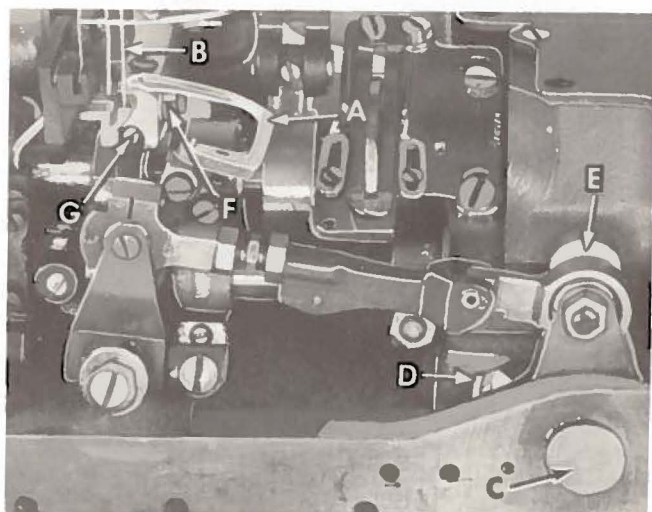
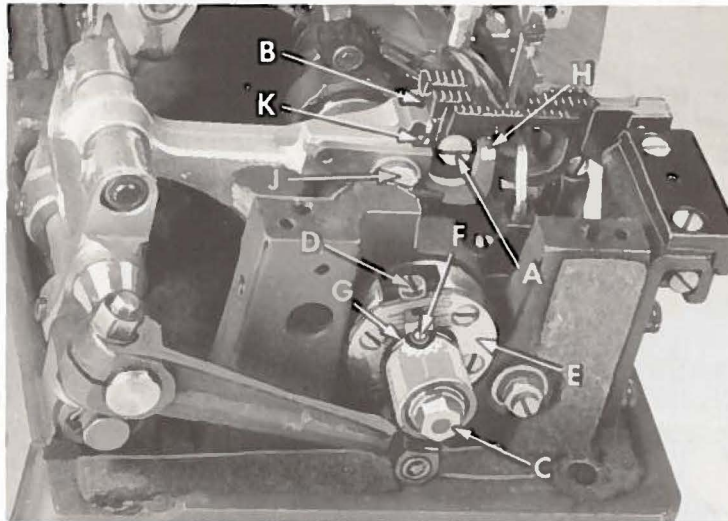

Fig. 5
Fig. 8
Insert the front looper (A, Fig. 5) in the looper rocker and turn handwheel in operating direction until the point of the looper, moving to the left is even with the left side of right needle (B). Note the height of the eye of the needle with respect to the looper point, then turn handwheel in the reverse direction until the looper point again moves to the left and is even with the left side of the right needle. If the motions synchronize, the height of the eye of the needle with respect to the looper point will be the same. A variation of .005 inch (.127 mm) is allowable. If the distance from the eye of the needle to the point of the looper is greatest when the pulley is turned in the operating direction, move the looper drive shaft synchronizing stud (C, Fig. 5) to the rear. Moving it in the opposite direction acts the reverse.
Moving of the looper drive lever shaft synchronizing stud is accomplished as follows: Loosen the clamp screw (D, Fig. 5) of the looper drive lever (E). To move stud to rear (away from operator),
NOTE: Looper drive lever (E, Fig. 5) has an oil seal collar and an 'O' ring between it and the bed casting. All end play must be removed from the looper drive lever rocker shaft by compressing the 'O' ring until lever (E) and oil seal collar make metal to metal contact with the bed casting. Tighten screw (D).
The tips of the feed dog teeth should extend $1\frac{1}{4}$ tooth depth or approximately $3/64$ inch (1.19 mm) above the throat plate and parallel with the throat plate at high point of travel. The height can be adjusted by loosening screw (A, Fig. 8) which holds the feed dog in position, turn height adjusting screw (B) as required and retighten screw (A). If feed dog teeth are not parallel with the throat plate, loosen nut (F, Fig. 5) and turn screw (G) clockwise to lower the front teeth, or counterclockwise to raise the front teeth. Retighten nut (F) when feed dog is set properly.
Set the stitch to required length. This is accomplished by loosening the locknut (C, Fig. 8) 1/2 turn (it has a left hand thread) on the end of the stitch regulating stud and turning the stitch adjusting screw (D) located under the left end of the cloth plate, in the head of the main shaft (E), which is marked with 'L' and 'S'. Turning the
Set the rear needle guard (H, Fig. 8) horizontally so that it does not quite contact the rear of the needles when at its most forward point of travel. A clearance of .005 inch (.127 mm) is permissible. It should be set as low as possible, yet have its vertical face approach within about 3/64 inch (1.19 mm) of the needles, until the points of the loopers moving to the left, are even with the needles. To move the guard forward or rearward, merely loosen screw (J), move needle guard as required, and retighten screw. To raise or lower needle guard, loosen screw (J) and turn screw (K) clockwise to lower needle guard or counterclockwise to raise it. Retighten screw (J) after guard is properly set.